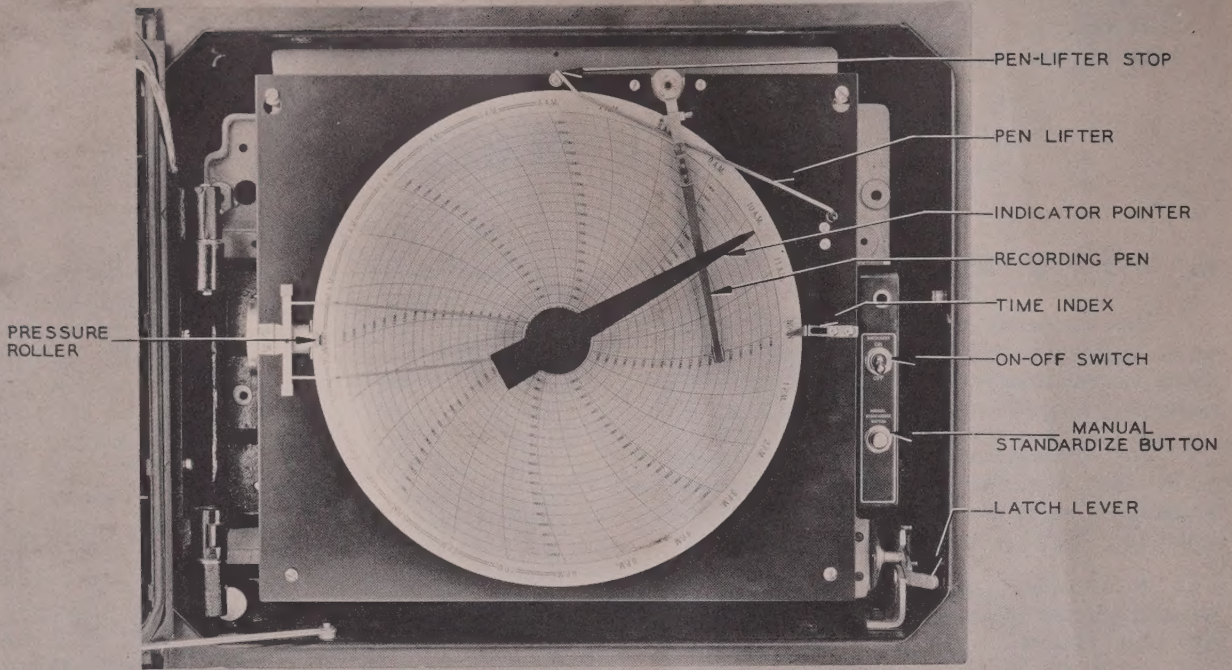

FIGURE 4. FRONT VIEW OF CHART PLATE
1. **To Remove Chart.** (See Fig. 4 & 5.) Grasp indicating pointer by the hub and pull gently to release it from the center arbor. Swing pointer to the left out of the way. Move pen lifter down to lift pen from the chart. Slide time index to the right. Grasp chart by its lower edge and pull it off the center arbor.